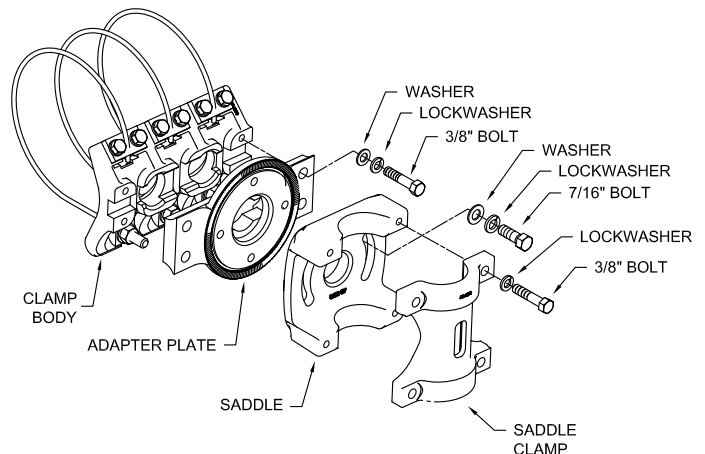

Figure 3
3. Back off each 7/16" cable screw nut to loosen the cables and adjust the Triton Clamp to the desired position on the mast arm or pole such as shown in Figure 3. Snug the cable screw nuts just enough to hold the Clamp Kit in position.